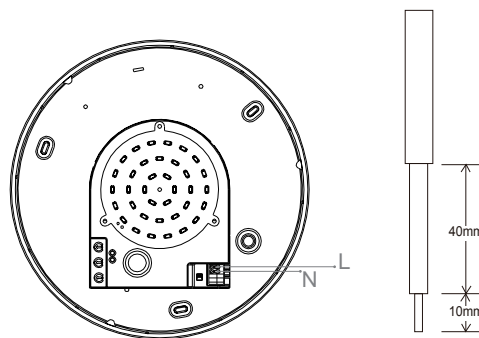

Fig.11
- Step6 Put the power line through the line hole to connect on the wiring (as Fig.11)